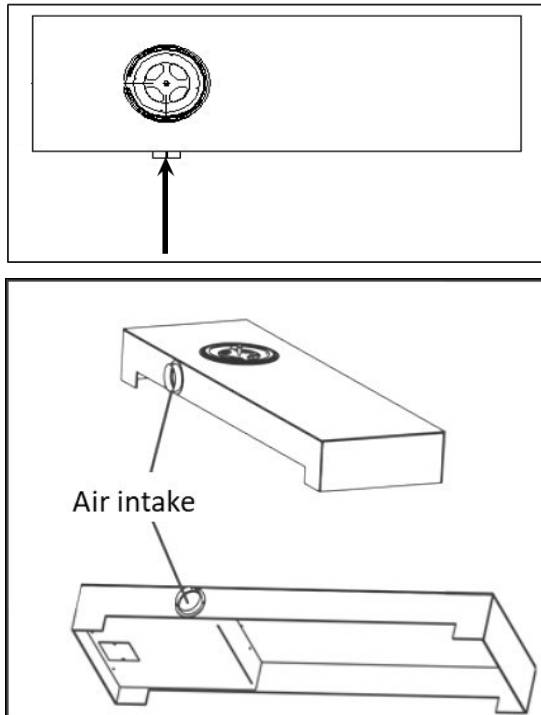

Fig. 4
- Pass the bolt through the stand and into the mounting hole. In the bench stand, pass the bolt through the flue of the outside air intake system of the bench stand and put it into the mounting hole using an Allen key (see fig. 4)